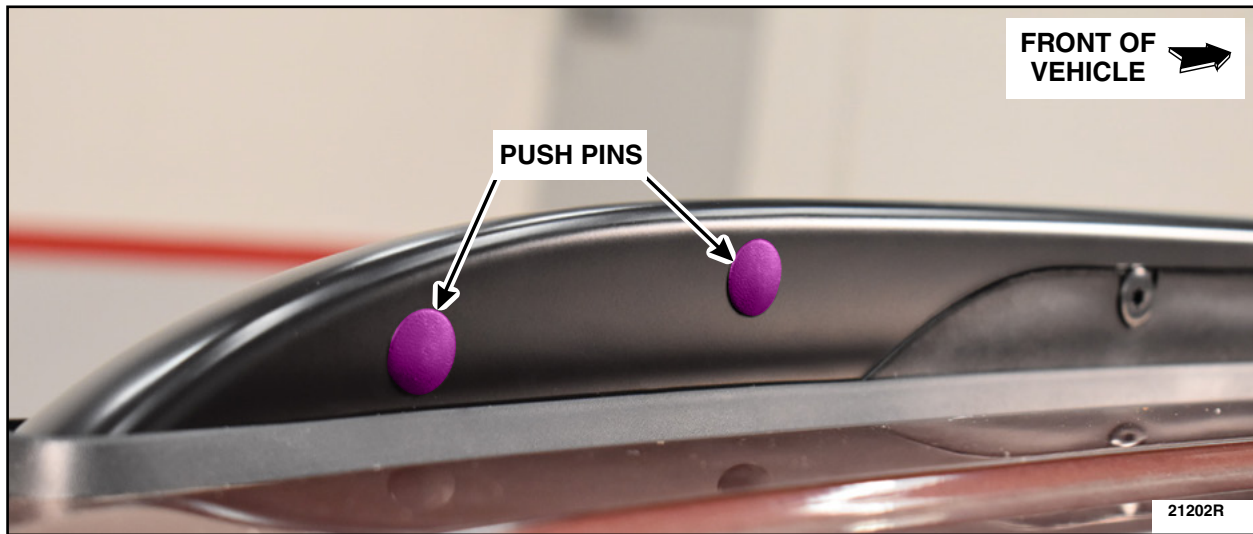

FIGURE 16
5. Remove the painters tape and install the push pin retainers. See Figure 16.